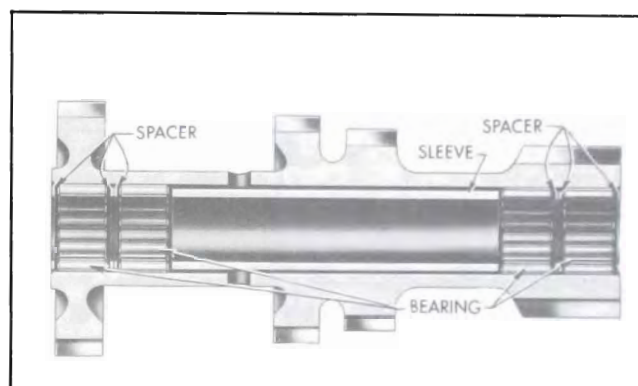

Figure 4-62—Cross Section of Countergear Assembly
2. Using heavy grease to retain the rollers, install 20 rollers in either end of the countergear, two .050" spacers, 20 more rollers, then one .050" spacer. Install in the other end of the countergear, 20 rollers, two .050" spacers, 20 more rollers, and another .050" spacer. (See fig. 4-62.)